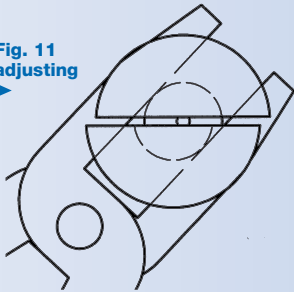
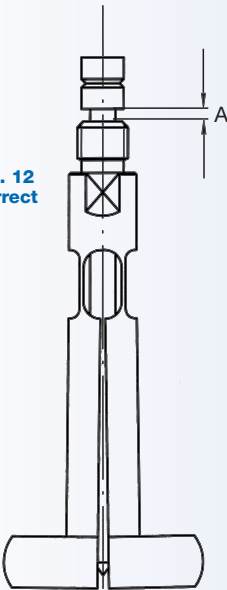
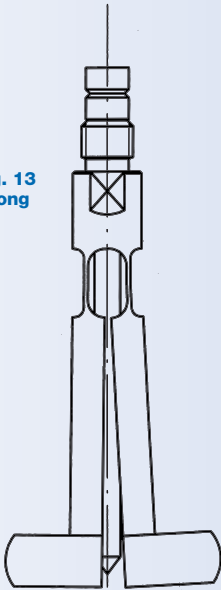

Fig. 12
Fig. 13
Fig. 14
2. Axial bending: (Fig. 12 - 15)
a) Distance "A" (Fig. 12) of probe-head to probe-threading should be as follows when needle is loosely introduced:
b) Probe legs should obviously be symmetrical to probe axis. Fig. 12 and 15 = correct, Fig. 13 = wrong. Probe legs that are bent (Fig. 13) or bent together (Fig. 14) can be adjusted by careful bending of the legs. For this probe has to be held at threaded piece.